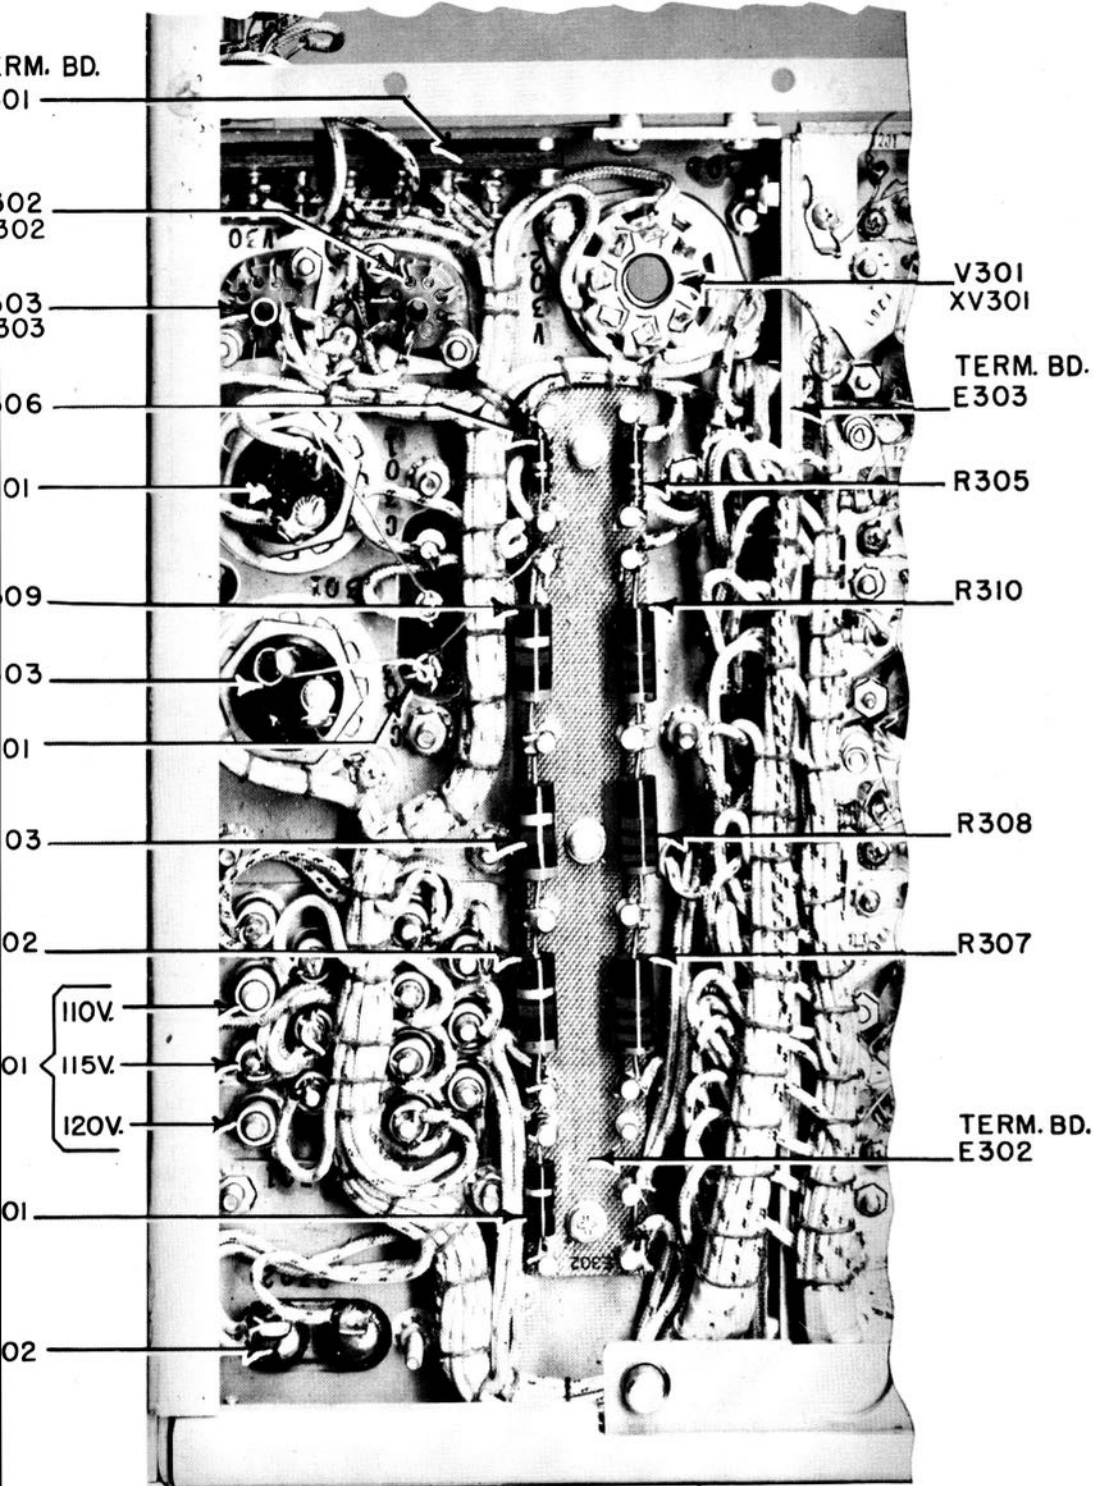

Figure 2-15. Underside of Power Supply Section
c. POWER SUPPLY. A single power transformer (T301) supplies heater power for all tubes and, after rectification, high voltage d.c. for plates and screens, as well as a small negative voltage used for bias. See the power supply explanatory schematic diagram, figure 2-14, and the photograph, figure 2-15.
The power input receptacle (J401) is wired to the primary of power transformer T301 through the band suppression filter. The primary of this transformer is tapped to permit operation of the receiver from a 60 cps power source of 110, 115 or 120 volts potential (see figures 2-15 and 2-14). Terminals 1 and 2 should be used for a 110-volt input, terminals 1 and 3 for a 115-volt input and terminals 1 and 4 for 120-volts. In the equipment, as shipped, this transformer is wired for 115-volt operation.